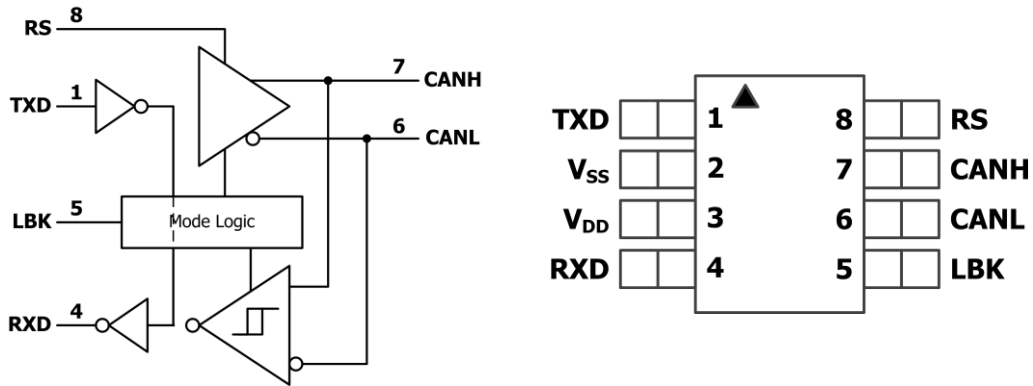

Figure 2: UT64CAN3331 (Diagnostic Loopback)
- Diagnostic loopback mode (Figure 2)
The UT64CAN3331, Figure 2, provides the option to isolate the transceiver bus connections to permit local node diagnostics, without interrupting operations on the bus. Diagnostic Loopback mode is enabled when the LBK pin is biased $\geq V_{IH}$. Diagnostic Loopback mode is disabled when the LBK pin is biased $\leq V_{IL}$. In the Diagnostic Loopback mode, the CANH/CANL output is placed in the recessive mode.